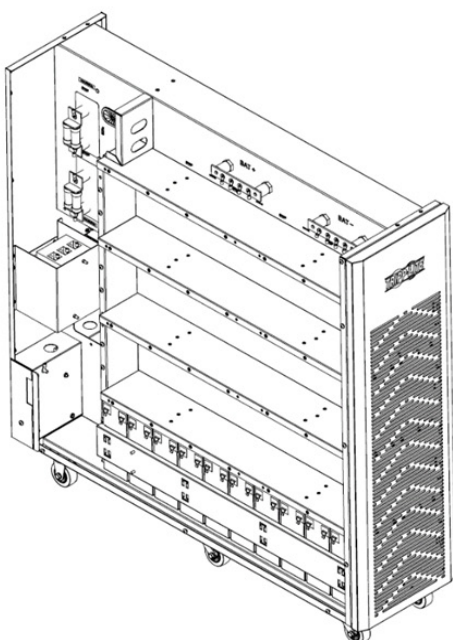

Figure 5-7A
7. Reinstall the right side and left side bracket bars of group 1 batteries (Figures 5-7A and 5-7B).